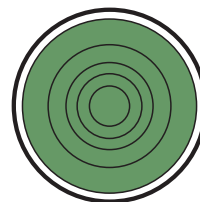

Figure 115. Main Circuit Breaker ON Lamp (ON/GREEN)
9. Verify that the **Main Circuit Breaker ON** lamp (Figure 115) is illuminated (**GREEN**). This indicates that **the circuit breaker contacts are closed** and power has been sent to the load.